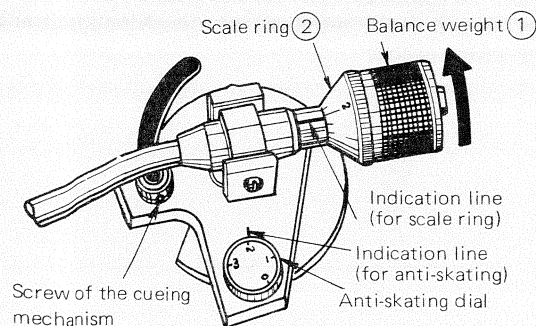

Fig. 11
- (1) Rotate the balance weight ① until the tone arm is balanced evenly.
- (2) When the tone arm is balanced evenly turn the scale ring ② alone until the "0" on the scale ring of the balance weight is set over the indication line. The tone arm is now set at zero gram.
- (3) Turn the balance weight ① slowly until the indication line comes to the specified force. The stylus tip will then be adjusted to the desired tracking force. (Fig. 11)
Match the anti-skating dial to the indicated line in accordance with the tracking force of the cartridge used. (Fig. 11)
To adjust the height of the stylus tip when using the cueing facility, loosen the screw of the cueing mechanism shown in Fig. 11.